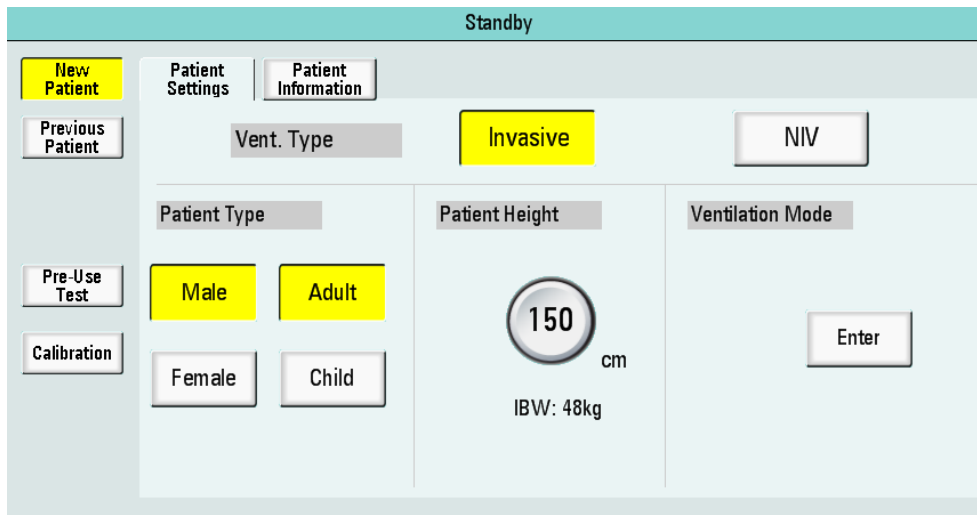

Figure 6-6
Step 2: Ventilation type (Invasive or NIV, default is Invasive), Patient height (default is 150cm) and Ventilation mode. See example in Figure 6-6.